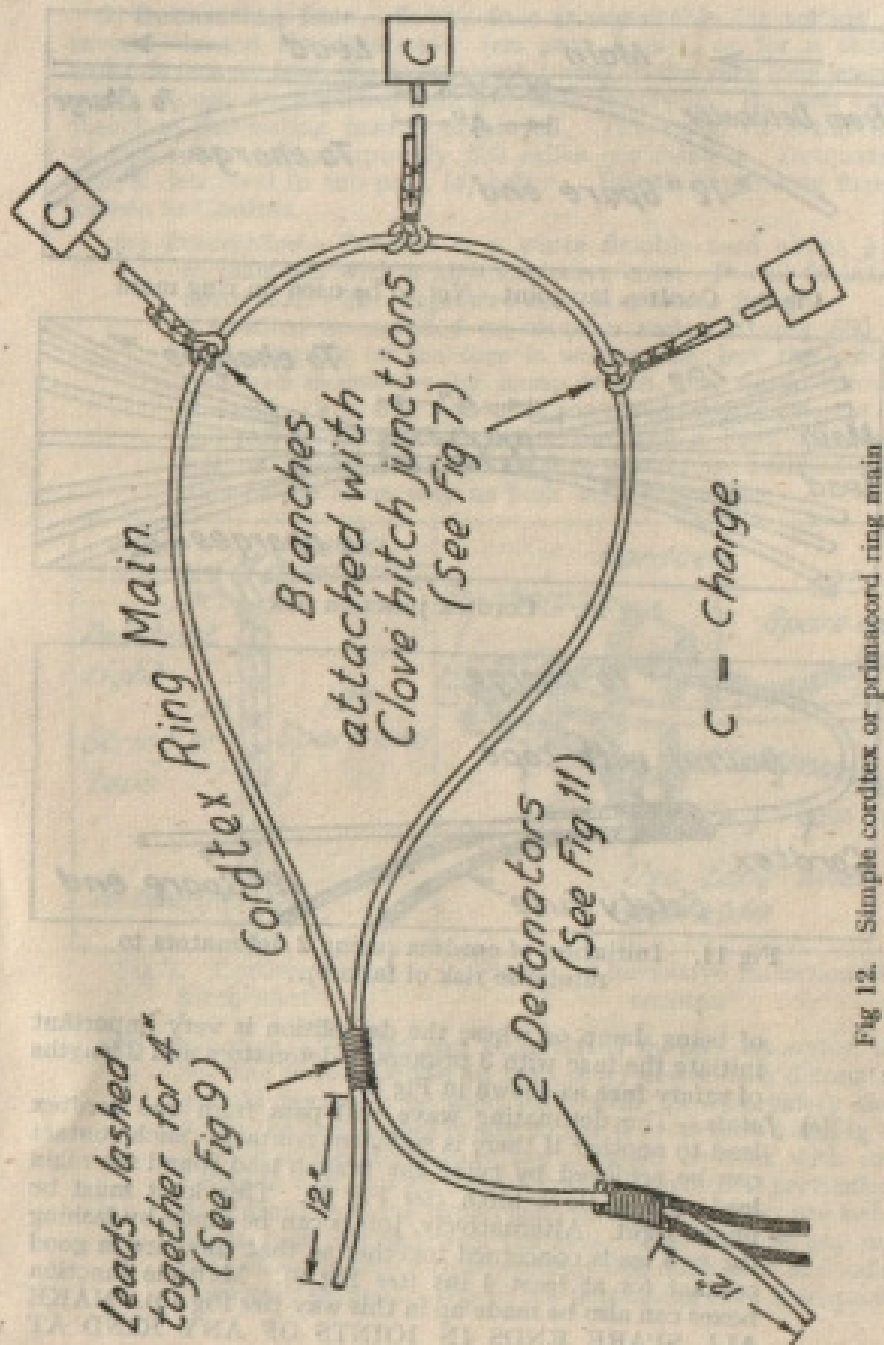

Fig 12. Simple cordtex or primacord ring main
- (e) *Ring mains.*—The most efficient method of firing more than one charge simultaneously is by the use of a ring main made up with detonating fuze (see Fig 12). The main is initiated with two detonators and two lengths of safety fuze as already described.